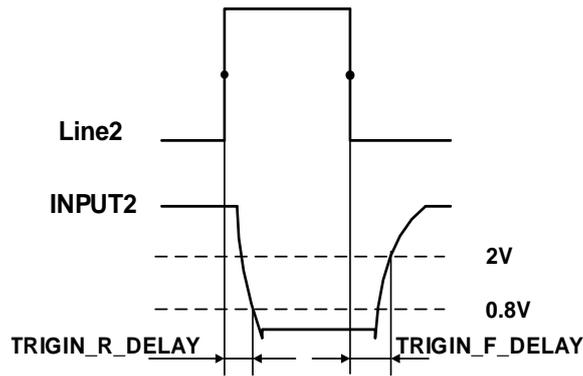

Figure 7-25 Parameter of Line2 input circuit
- Input rising time delay: <math><2\mu\text{s}</math> (0°C ~45°C), see Figure 7-25 for parameter description
- Input falling time delay: <math><2\mu\text{s}</math> (0°C ~45°C), see Figure 7-25 for parameter description